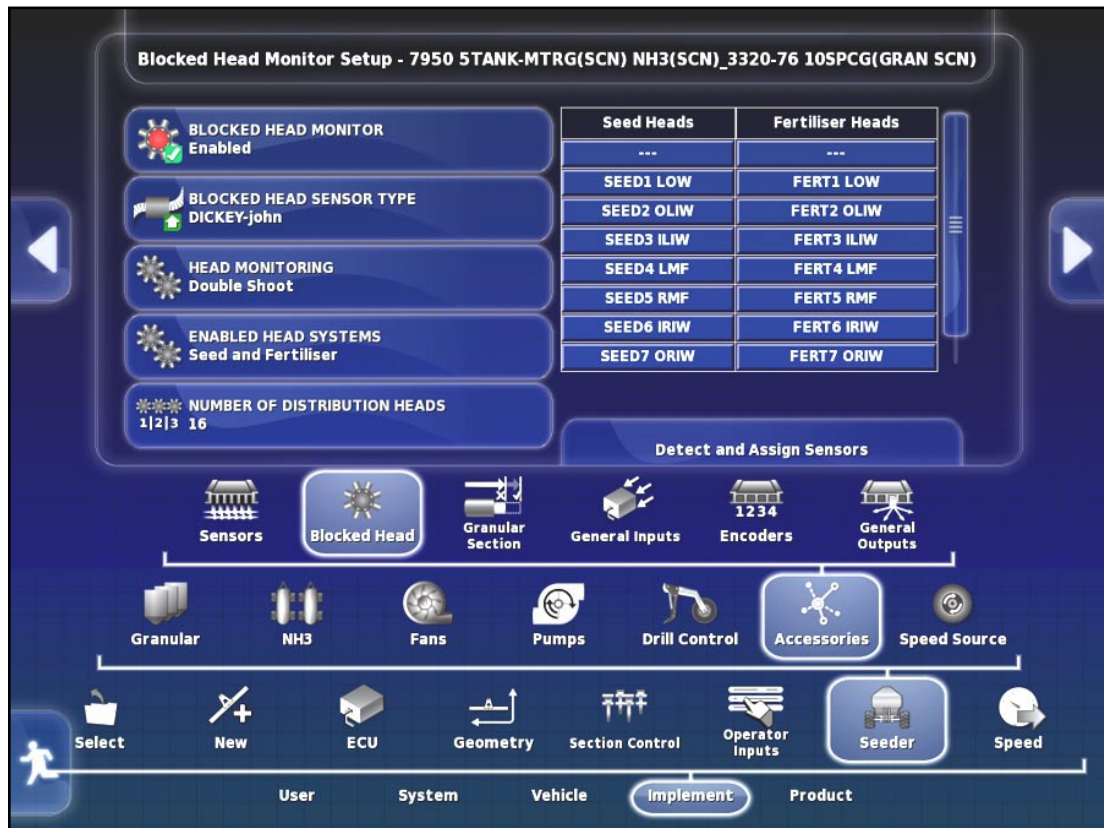

Figure 6.80 - Blocked Head Monitor Settings (Factory Profile)
Refer to *Figure 6.80*.
- If factory drill profile was used during set up, the values for these settings will be automatically loaded, refer to example on *Figure 6.80*.